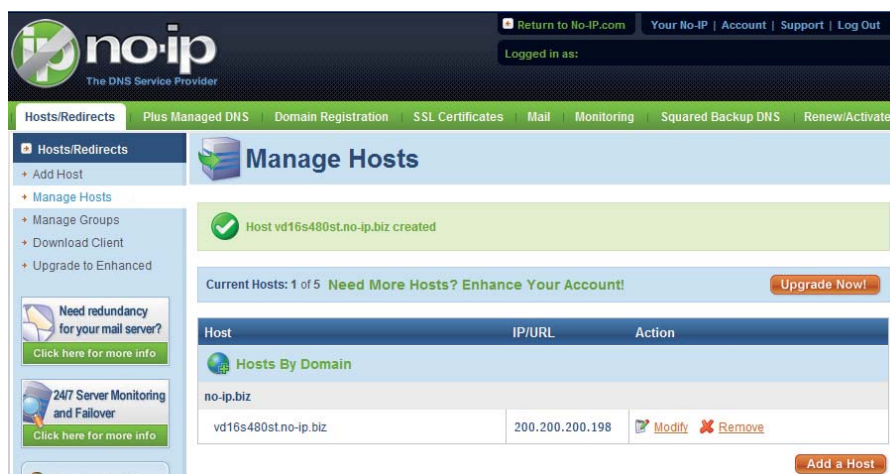

Figure 0-9
- Now you can see an interface is shown as in Figure 0-9. Here you can view domain name and the computer's current IP setup. If you already have a domain name equal to gurado trusted, you must define another name for the host.